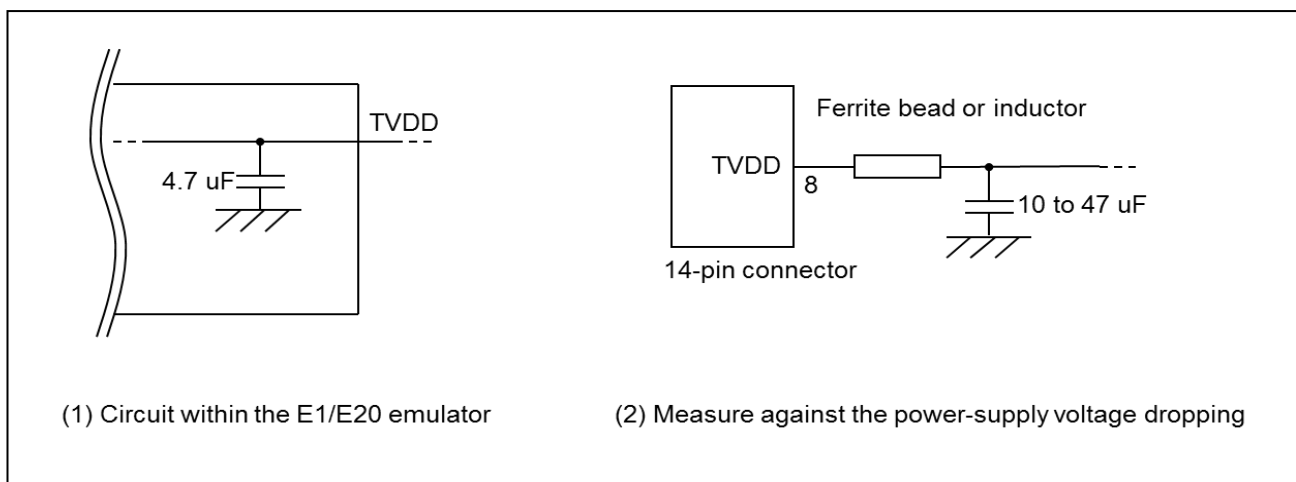

Figure 2-7 Circuit Configuration for Hot Plug-in
Pin 8 of the E1 emulator is connected to a 4.7- μ F capacitor as shown in (1) in Figure 2-7, so hot plug-in connection of the emulator may lead to a momentary drop in the power-supply voltage on the user system. This might cause the MCU to be reset.
As shown in (2) in Figure 2-7, this effect can be reduced by placing a ferrite bead (or inductor) and relatively large capacitor with low equivalent series resistance near the TVDD line of the connector for connection of the emulator. Note that this measure will not completely eliminate the voltage drop. Note that hot plug-in is only for use during debugging, and a separately sold hot plug-in adapter is necessary to use this function otherwise.